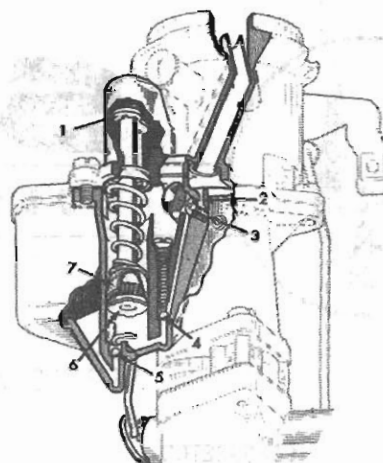

FIG. 5
Accelerating (or Pump) System -- In the accelerating or pump system (see Fig. 5) as the accelerator is depressed, the pump plunger (6) is forced downward. This forces the fuel to leave the chamber, closes the inlet ball check (5), opens the outlet ball check (4) and discharges the fuel into the carburetor throat through the pump jet (3). As the accelerator